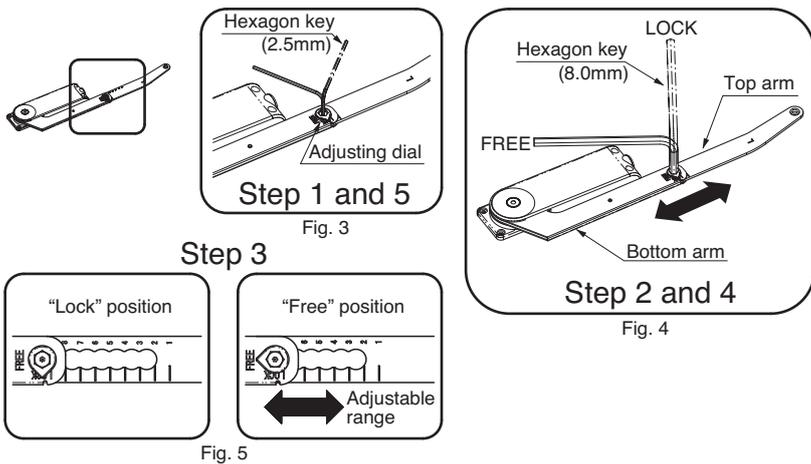

Fig. 3,4,5 Arm adjustment procedure
- step1 Using a hexagon key (2.5mm) loosen the socket screw securing the adjusting dial (Fig. 3).
- step5 Using a hexagon key (2.5mm) tighten the socket screw securing the adjusting dial (Fig. 3).